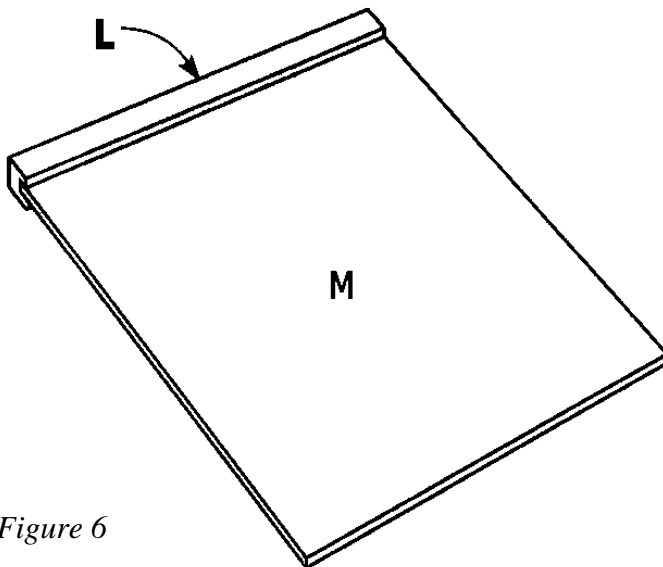

Figure 6
1. Cut one Tray Front (L) from 1 x 1 pine, measuring 11-7/8 inches.
2. Cut a 1/4-inch dado to a 1/4-inch depth, centered width-wise, down the length of the Tray Front (L).
3. Cut one Tray (M) from 1/4" plywood, measuring 11-7/8 x 13 inches.
4. Apply glue to the meeting surfaces, and insert one 11-7/8" edge of the Tray (M)
into the dado in the Tray Front (L), as shown in *Figure 6*. Allow the glue to set up for 24 hours.